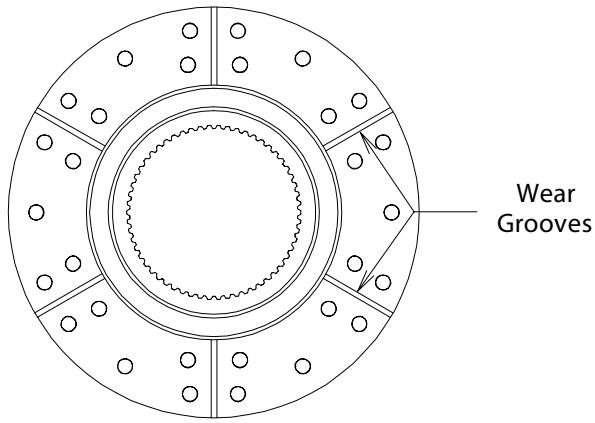

Figure 8
4.2.1 On both single and multiple disc units, the friction material must be replaced when worn to the bottom of the groove on the friction lining (see figure 8) or any "Y" dimension exceeds the limits shown on Table 11. On multi-disc units, however, a wear adjustment is required when the "X" dimension is exceeded but the "Y(s)" dimension(s) are not worn to their limits.